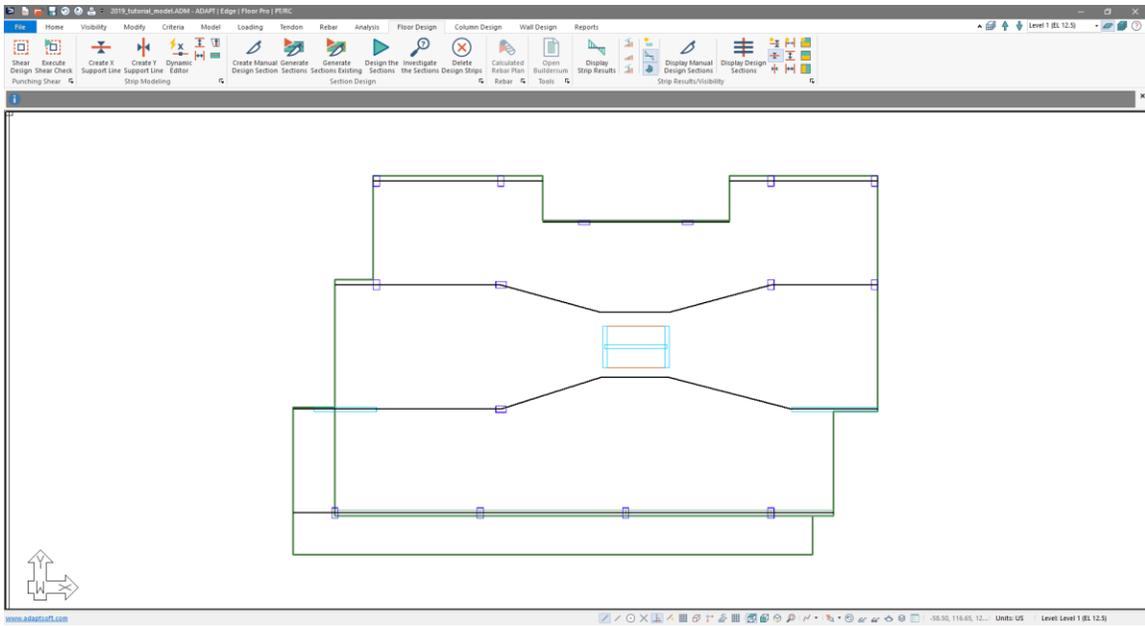

Figure 9-39
- Go to *Floor Design* → *Strip Results/Visibility* and click on the *Display Design Section*  icon. You may have to click the button twice to turn off the design sections completely. The user should now see the plan view of the first level with the X-direction support lines visible. Design sections and tributary regions for the support line have been turned off. The user’s screen should be similar to that of **FIGURE 9-39**.